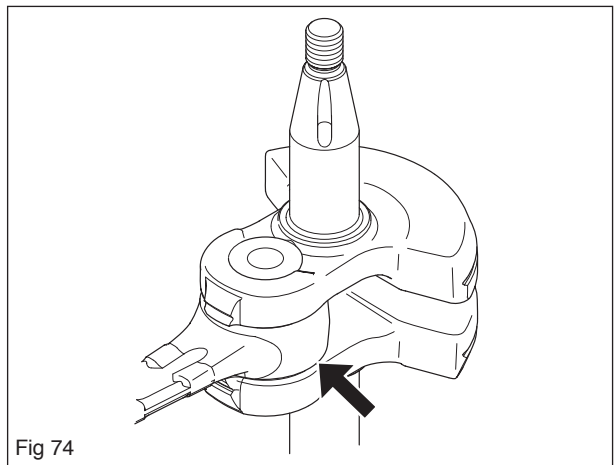

Fig 74
- 1 That the big-end bearing does not have any radial play. Axial play is permitted. See figures 74 and 75.